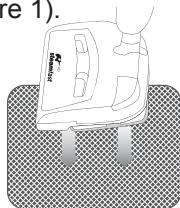

Figure 1
2. Turn On by pressing Steam Power Button located on the front of Body (A). The Steam Indicator Light will illuminate red when power is On (B).
3. Place Resting Pad on floor, so that the textured side faces upward. Rest Sweeper Steamer Head on top of Resting Pad, in order to help protect the floor surface from excess heat and moisture (Figure 1).